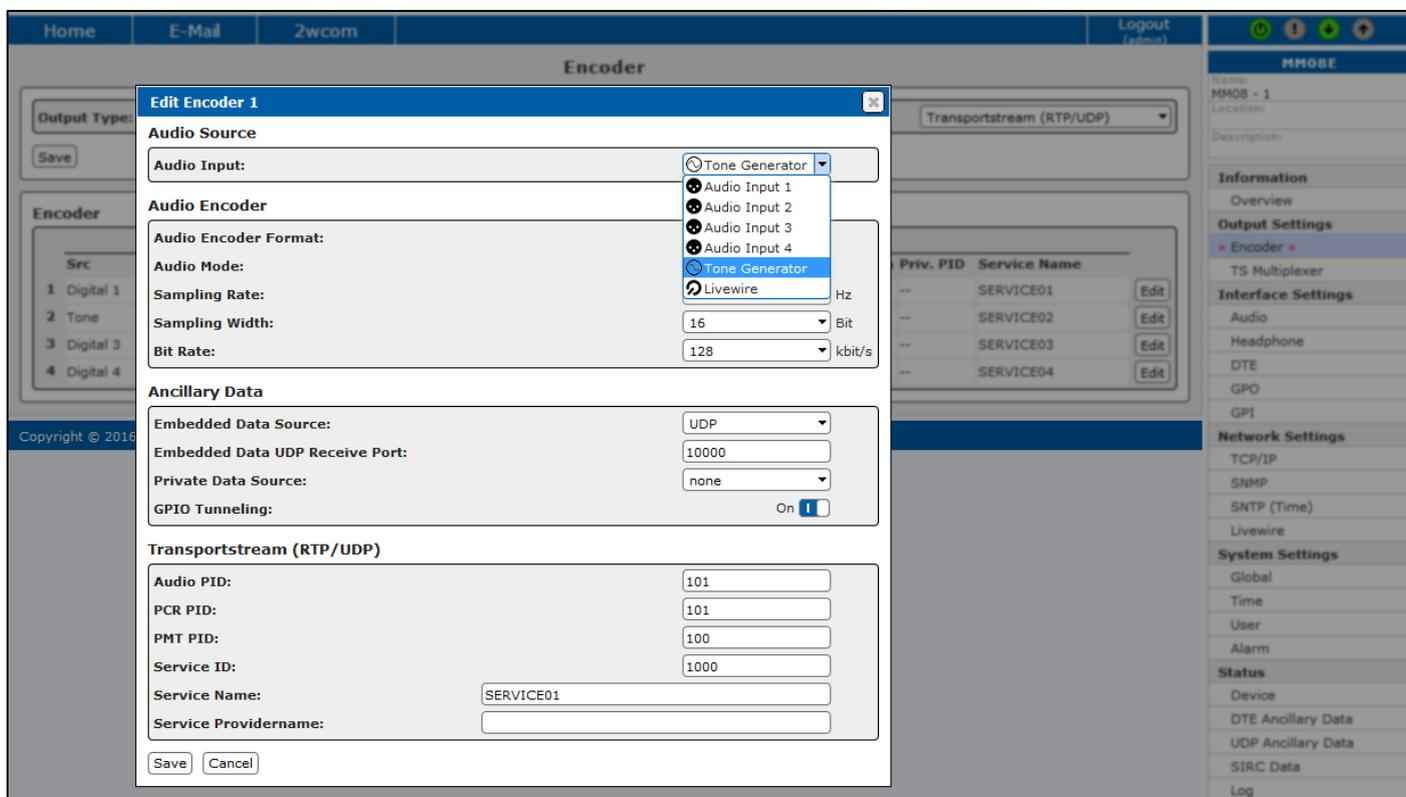
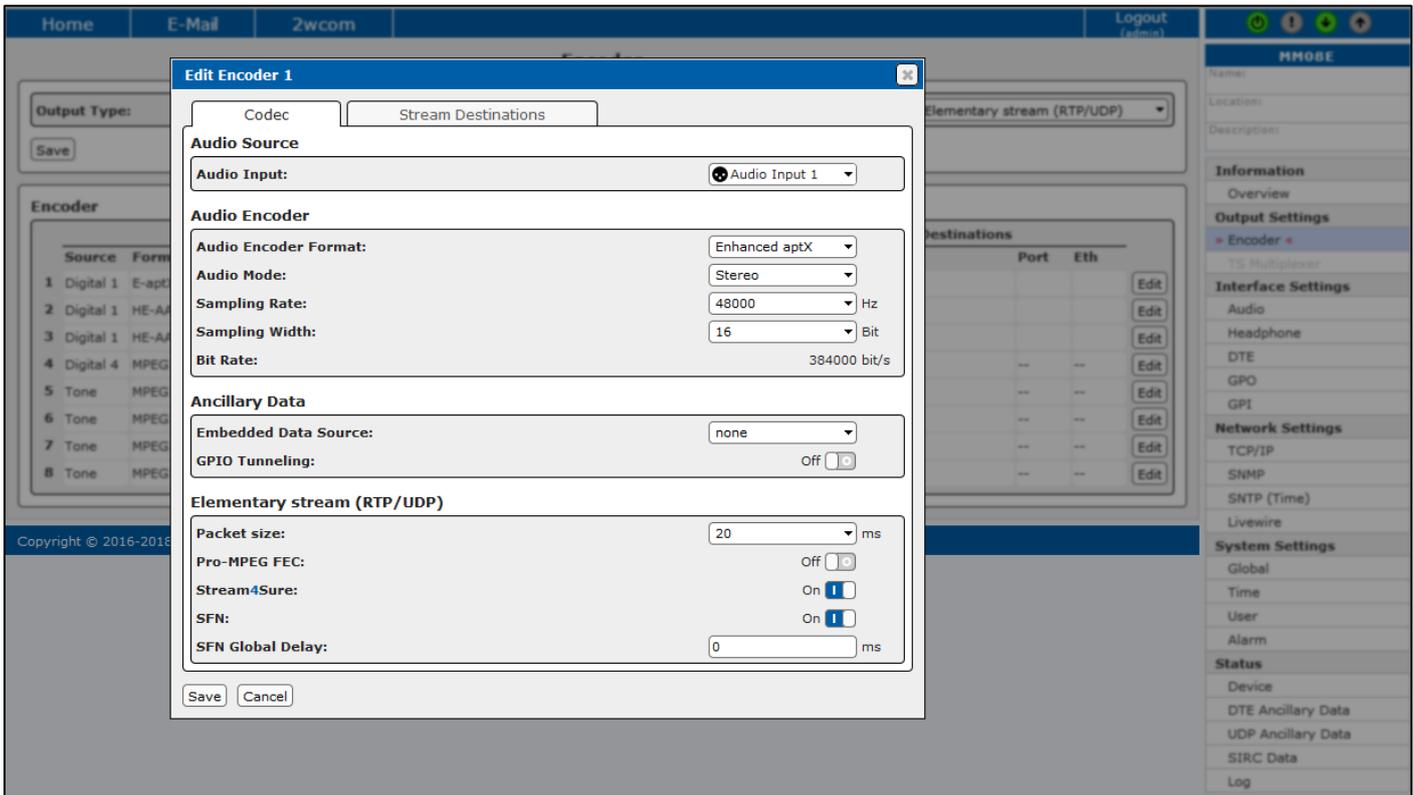

Figure 10: Encoder configuration – TS Mode
Figure 11: Codec Configuration – Elementary Stream Mode
4. Click the "Edit" button in the block "Encoder" to activate and configure the source for each Encoder 1-8 (=Program 1-8). The page "Edit Encoder" appears (see Figure 10 for TS mode and Figure 11 for "Elementary Stream" mode).
- Optional: Activate network synchronization for SFN, if available (see Figure 11).